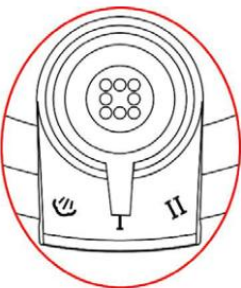

Fig.7
- 3. Equipping to adjust pressure-limiting valve, regulating working pressure very easy. (Fig. 7), the position of low-pressure step).